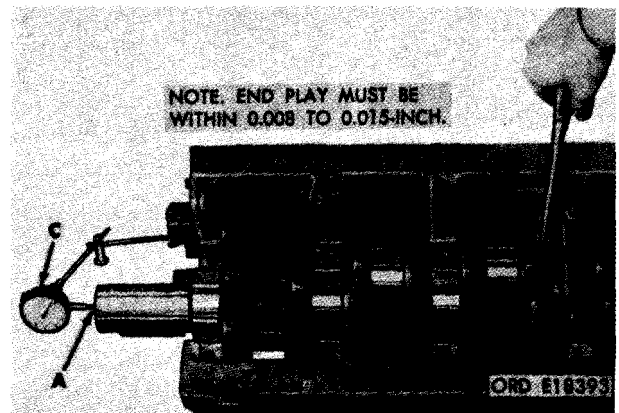

FIGURE 466. CHECKING CRANKSHAFT END PLAY.
b. Check Crankshaft End Play. Figure 466. (A) Mount dial indicator on crankcase so indicator point rests on front end of crankshaft assembly. (B) Using a heavy screwdriver between center main bearing cap and crankshaft counterweight, push crankshaft toward rear end of cylinder and crankcase to align thrust bearing flanges. Tighten main bearing cap screws to a torque of 1100 pound inches. (C) Set indicator on zero reading ("O"). (D) Using heavy duty screwdriver, push crankshaft toward front end of cylinder and crankcase to check end play. Crankshaft end play must be within 0.008 to 0.015-inch.